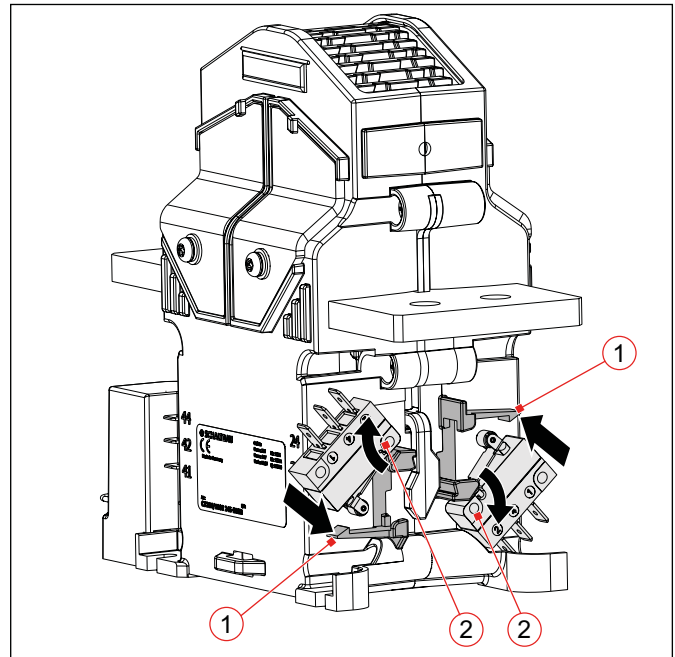
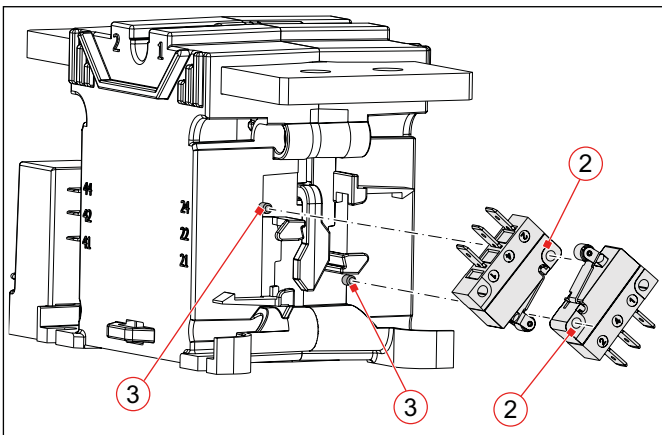

Fig. 19: C320K: Replacing the auxiliary switches - 1
Fig. 22: C320S: Replacing the auxiliary switches - 2
- ▶ Carefully release the snap-fit hook (1) of the catch mechanism.
- ▶ Continue to hold the snap-fit hook (1) carefully and turn the auxiliary switch (2) approx. 45° clockwise around the bearing pin (3).
- ▶ Pull the auxiliary switch (2) off the bearing pin (3).
- ▶ Place a new auxiliary switch (2) in approx. 45° position (as shown in **Fig. 19** to **Fig. 22**) on the bearing pin (3).
- ▶ Carefully turn the auxiliary switch (2) counterclockwise around the bearing pin (3) until it slides into the mounting and the snap-fit hook (1) engages.